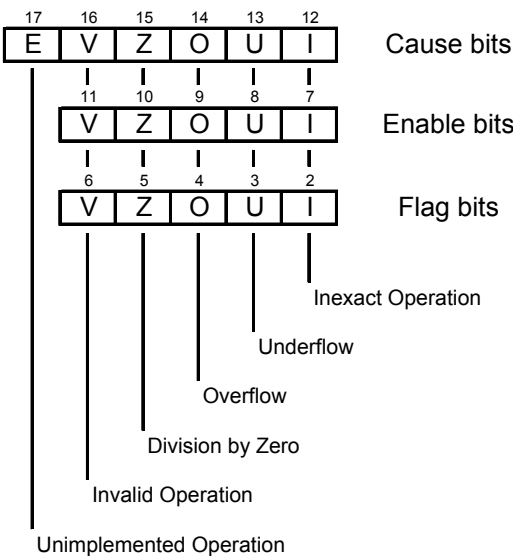

Figure 4-1: Cause, Flags, Enable Fields of the Control/Status Register
The Unimplemented Instruction exception (E) is an additional exception that can be reported by the ALLEGREX™ FPU. However, this exception is always generated for the CPU and its software trap cannot be disabled. The bits of the Control/Status register are shown in Figure 4-1